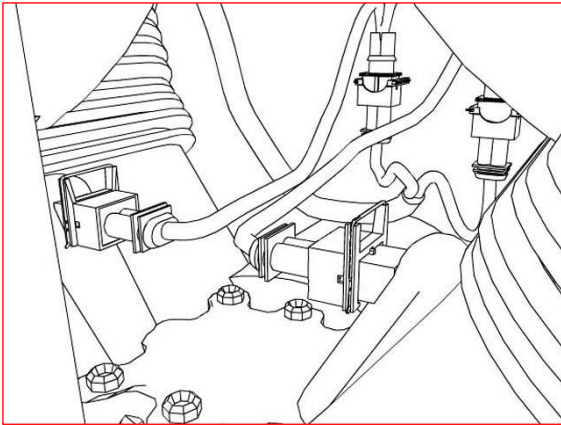

Figure 14
13. **Feed the TFI injector connectors under the throttle body and connect them to their respective injectors. Install the horn. (see figure 14)**